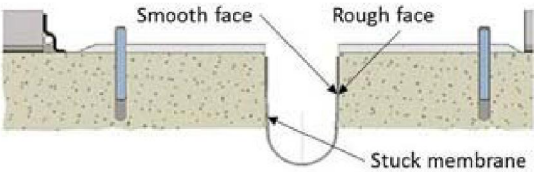

Figure 7
- Set the adequate membrane progressively by applying its rough face against the 80mm coated (Photos 5 & 6; Figure 7).